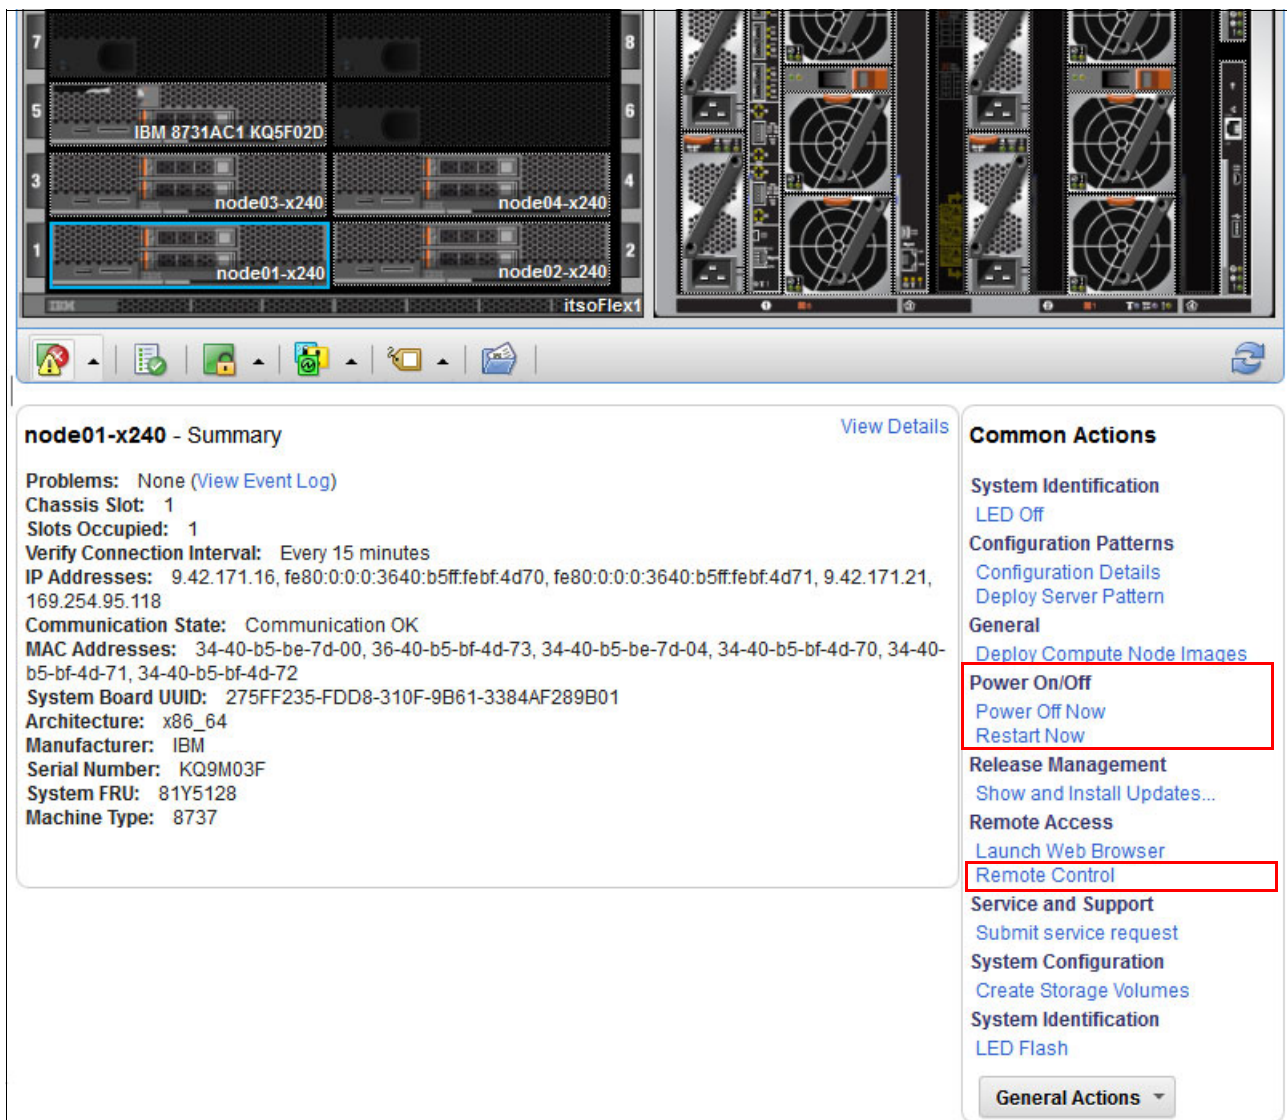

Figure 7-57 Chassis Map with selected compute node and available Common Actions menu
1. Return to the Chassis Map and select a compute node. The Common Actions navigation bar gives you quick access to some of the most common tasks performed on the system, as shown in Figure 7-57.